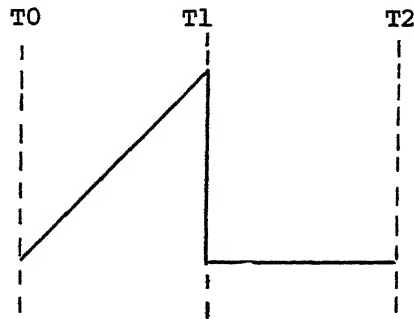

FIGURE 4
39. Refer to Figure 4. During the time period of T0-T1 the diode CR2 is \_\_\_\_\_ and C5 is discharging.